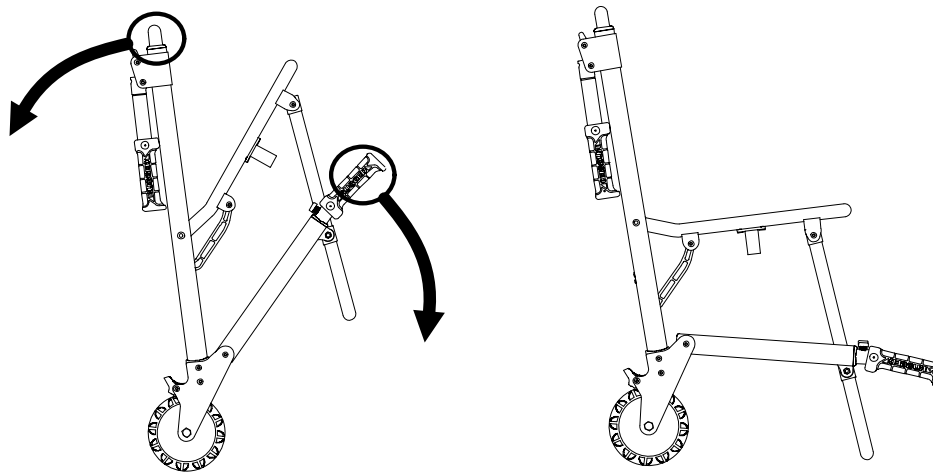

Figure 3 – Unfolding the chair
3. Pull the backrest and the extension handle apart (Figure 3).